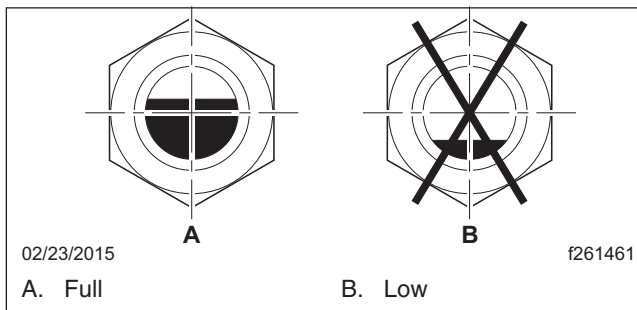

Fig. 4, Transmission Fluid Level Sight Glass
- Check the fluid level in the sight glass. When the fluid level is at or above 3/4 of the sight glass, then it is at or above the minimum fill level. See Fig. 4.